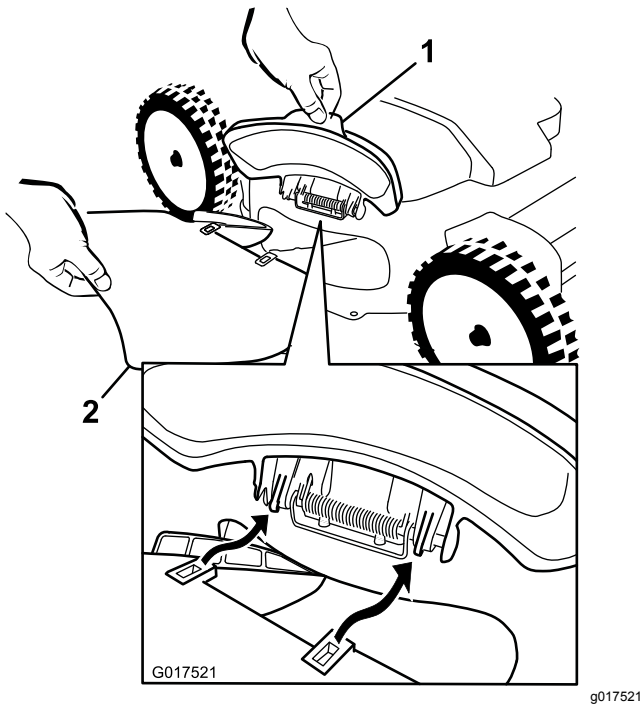
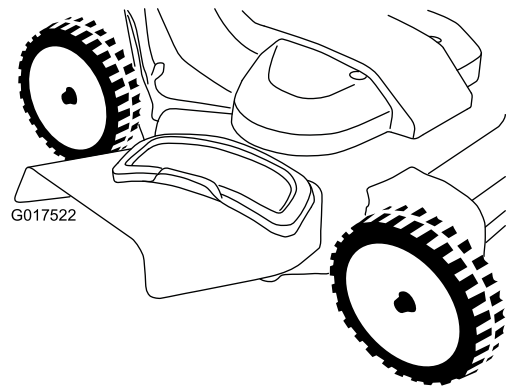

Figure 28
Figure 29
1. Lift open the side-discharge door (Figure 28).
2. Install the side-discharge chute as shown in Figure 28 and Figure 29, and close the door onto the chute.